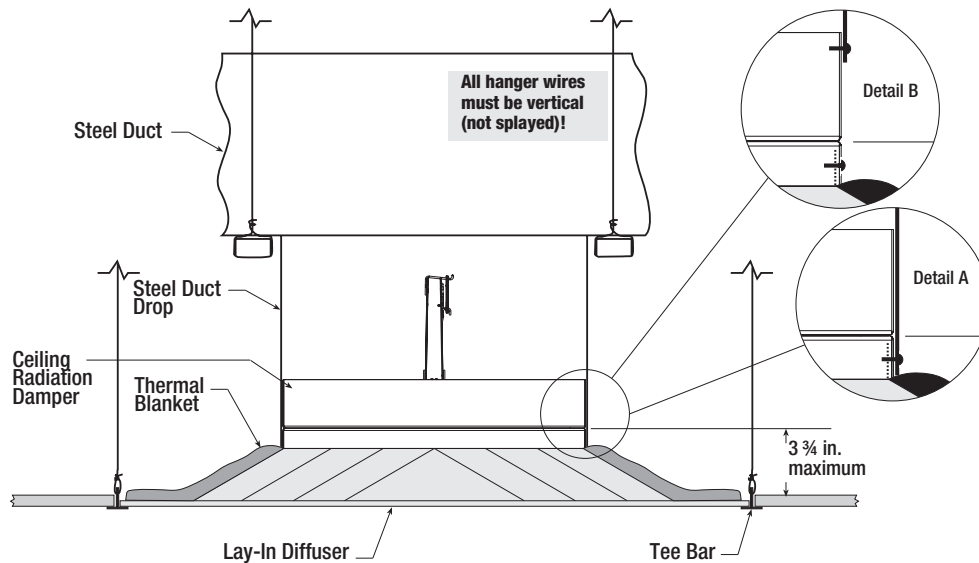

Figure 2
1) Ceiling radiation damper and diffuser neck may be connected directly to the duct drop (see **Detail A, Figure 2**).
2) Ceiling radiation damper may be connected directly to the diffuser neck and then the duct drop connected to the damper (see **Detail B, Figure 2**).
Models CRD-1, CRD-1LP, CRD-2, and CRD-60 may be installed as shown in **Figure 2** (Model CRD-1 and CRD-1LP as illustrated).